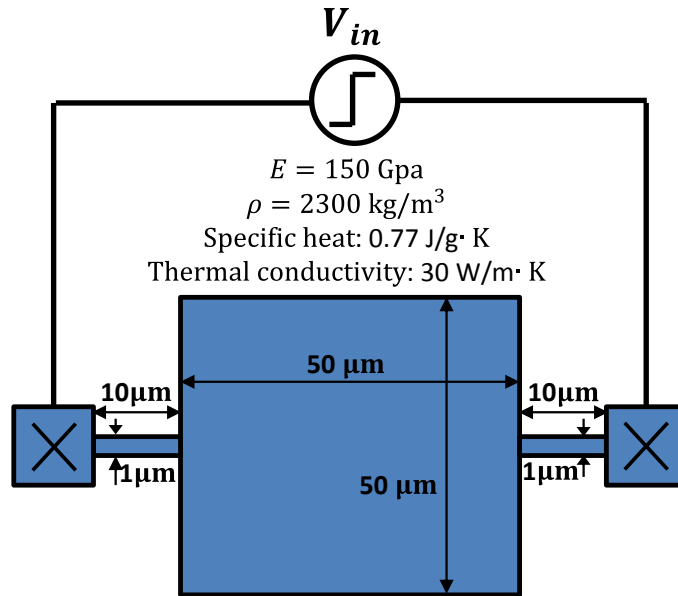

Fig. PS2.2-2
- (f) Suppose we use the layout as shown in Figure PS2.2-2 to pattern the polysilicon film to generate a MEMS accelerometer. If we apply a 100mV voltage across the two anchors, what is the steady state temperature of the proof mass? Assume the temperature of the silicon substrate and the anchors of the structure is constant at 20°C.